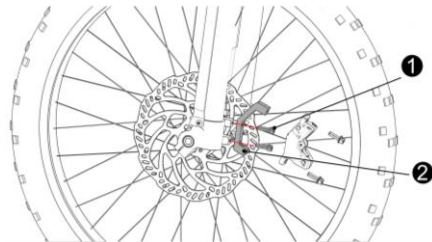

Fig 30
10.6 Dismount adapter of brake caliper (only suitable for front brake caliper)(see Fig 30)